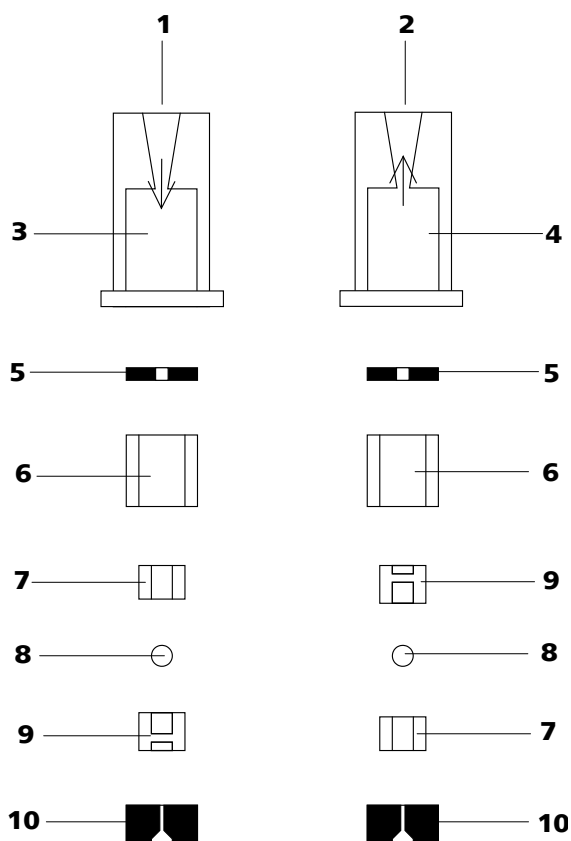

Figure 41 Components of the inlet valve and outlet valve
Reassemble valve components *according to figure 41, page 76*.
- Lay the other valve components above another in the correct sequence (*see figure 41, page 76*).
If this is not the case, the valve has to be dismantled again and be reassembled correctly (*see figure 41, page 76*).